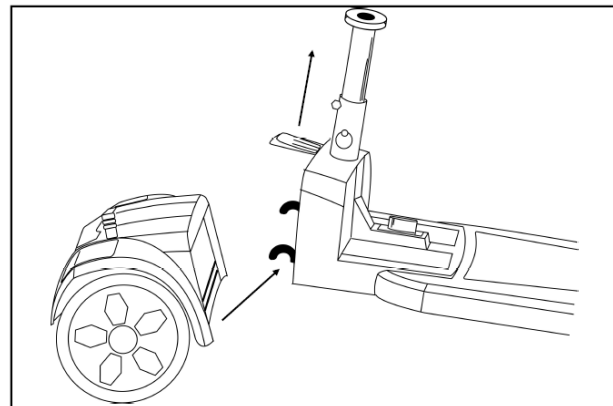

Figure 18: Separating the Drivetrain and Frame
8. Pull up on the drivetrain release lever with one hand to unlock the front and rear frame sections. *See Figure 18.*
9. Pull the front frame up and off the drivetrain. *See Figure 18.*